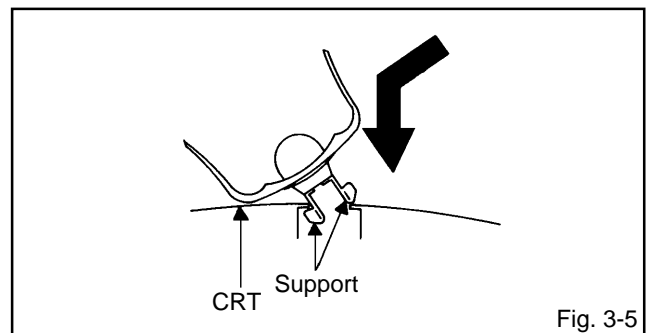

Fig. 3-5
4. Insert one end of the Anode Support into the anode button, then the other as shown in **Fig. 3-5.**